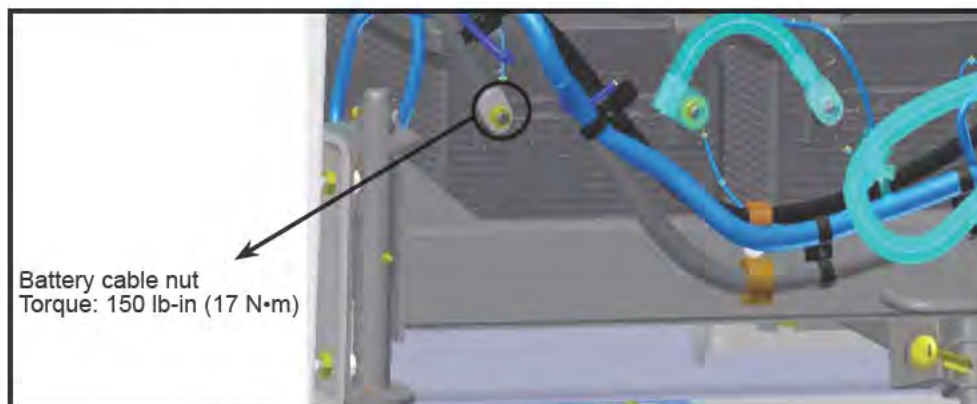

Figure 10 - Torque Values for Battery Connections
1.12. Connect the battery ground cable back to its original position (see Figure 10).